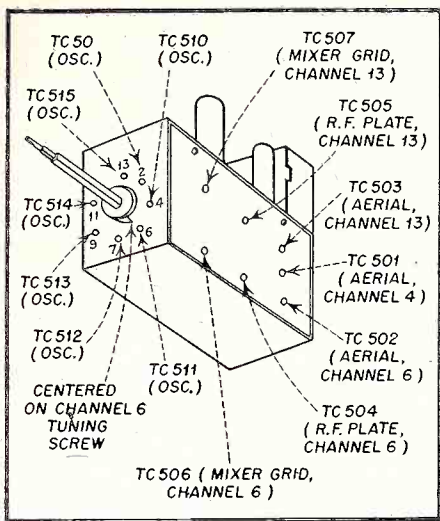

Fig. 5- Oblique view of tuner showing locations of various adjustments.
the channels below it in frequency. The Fine Tuning control should be preset for all adjustments. This is done by placing the stop on the fine tuning can at the center of the Channel 6 oscillator tuning core. See fig. 5.
4. Mechanically preset the fine tuning cam as shown in fig. 5.
6. Adjust appropriate tuning core (see figure 5).
10. Feed in an r-f (unmodulated) signal, at the oscillator frequency for Channels 7, 6, 4, and 2, consecutively, and adjust the respective tuning cores. See fig. 5.
1. Mechanically preset the fine-tuning cam to the center of its range (see fig. 5).